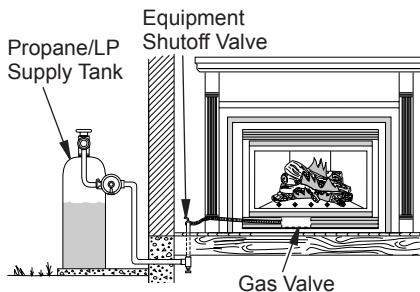

Figure 34 - Checking Gas Joints for Propane/LP Gas Fireplace
3. Check all joints from propane/LP supply tank or gas meter to equipment shutoff valve (see Figure 34 or 35). Apply noncorrosive leak detection fluid to all joints. Bubbles forming show a leak. Correct all leaks at once.
4. Check all joints from equipment shutoff valve to thermostat gas valve (see Figure 34 or 35). Apply noncorrosive leak detection fluid to all joints. Bubbles forming show a leak. Correct all leaks at once.